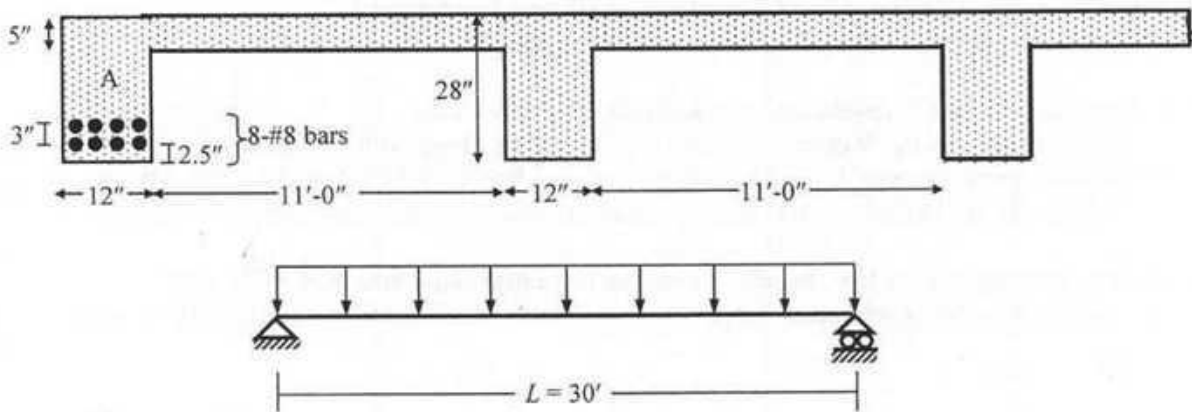

Fig. 4
8. Determine ultimate design moment for the "L" beam (marked A) as shown in Fig.4 and determine the allowable live load on the slab.  $FF=30$  psf, Random Wall Loads= $30$  psf. Use USD method.